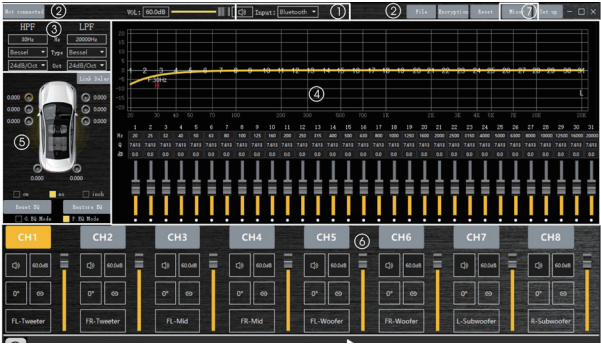
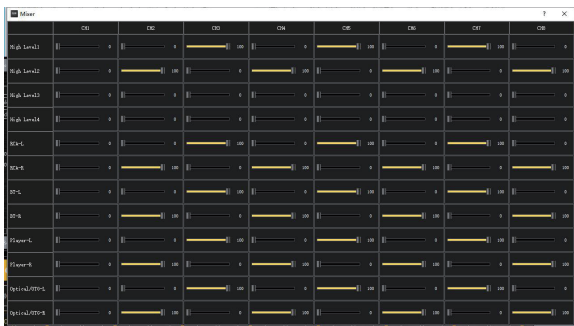

Figure 3.2.2
Figure 3.3.14
- ① as shown in figure 3.2.2, "1", input signal selection: high level, low level, Bluetooth, Optical, Player, OTG In.
- ② as shown in figure 3.2.2 "2", shows the main menu and connection status.
- ③ as shown in figure 3.2.2 "3", the high-pass and low-pass Settings of the divider.
- ④ as shown in figure 3.2.2, "4", area is output channel EQ setting.
- ⑤ as shown in figure 3.2.2, "5", shows the setting of delay space.
- ⑥ as shown in figure 3.2.2, "6", output channel configuration and common parameter adjustment area.
- ⑦ as shown in figure 3.2.2, "7", shows the setting of Mixer space.
In the online mode, in Figure 3.2.2 "1", click the appropriate input source, you can switch the audio input signal.
"6" area, click on the corresponding channel number in Figure 3.2.2 (CH1, CH2 .....CH8), you can switch to the corresponding channel to adjust relevant parameters when changing the channel editing, where there are only 3.2.2 "3" zone (crossover and equalization parameters) will vary depending on the channel and change the parameter values.
**Mixer settings:** click "mixer" in the "7" area in Figure 3.2.2, then you can switch to (Figure3.3.14) the relevant parameter settings for the corresponding adjustment.